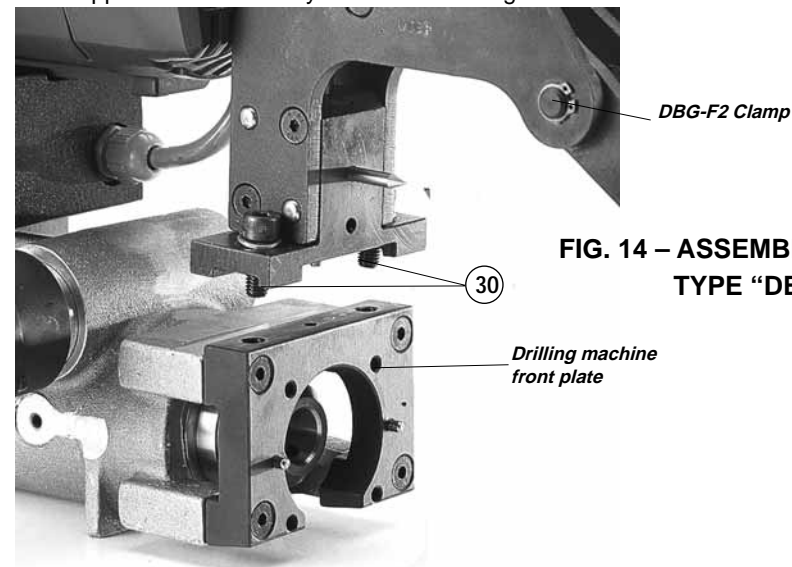

FIG. 14 – ASSEMBLY OF THE TYPE "DBG-F2" CLAMP
The **DBG-F2** clamping device is fitted to the front plate of the drill, centred by means of the reference pin supplied and secured with the two socket head cap screws **M8x25 (30)** also supplied. The assembly is illustrated in Fig. 14.